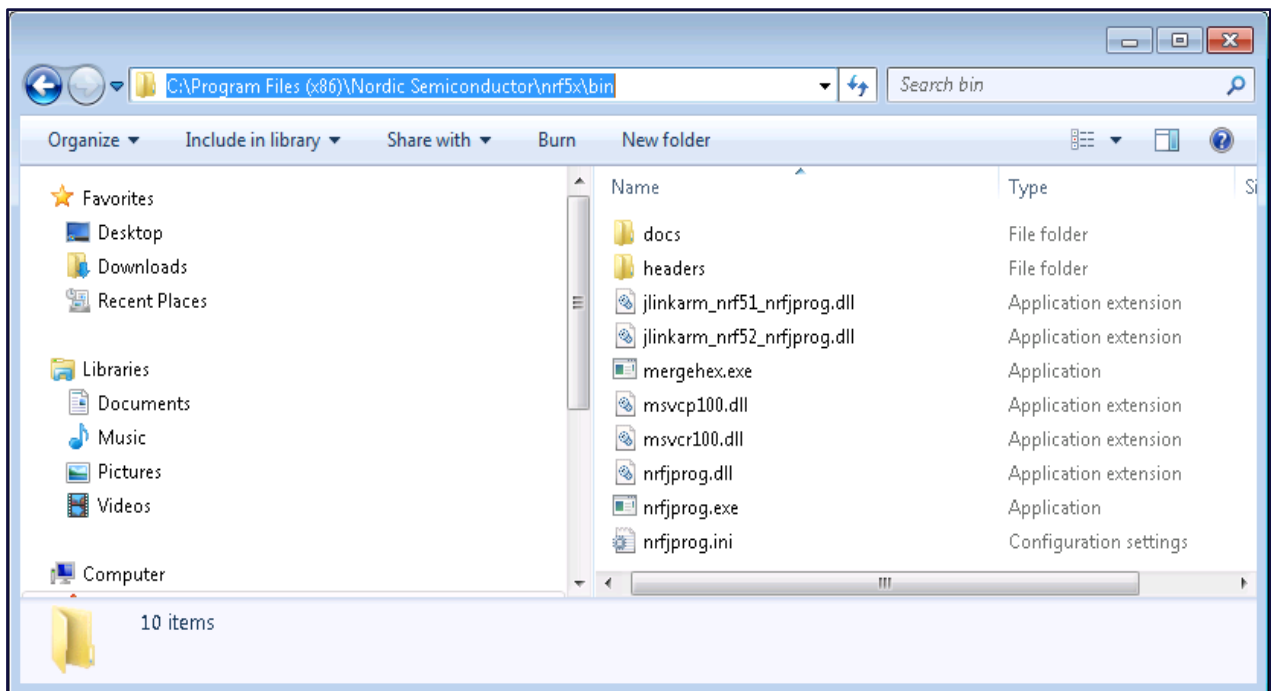

Figure 4: Location of `nrfjprog.exe`
5. Once downloaded, the `nrfjprog` executable can be found at `C:\Program Files (x86)\Nordic Semiconductor\nrf5x\bin` (Figure 4).